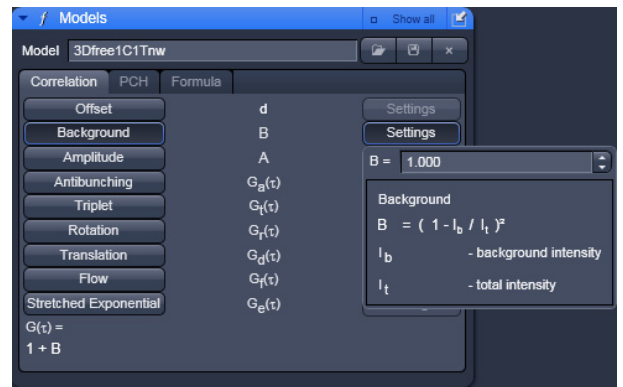

Fig. 9-57 Background Settings panel
- You can set an offset by setting a value in the **Background** selection box (Fig. 9-57). Either type in a value or use the arrows.